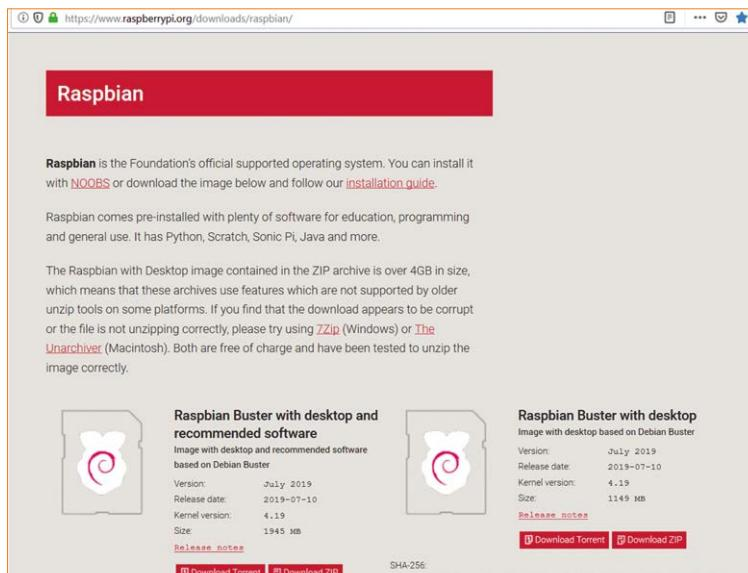

Figure 2.1: Raspbian Buster download page.
- Download the Buster image to a folder on your PC (e.g. C:\RPiBuster) from the following link by clicking the Download ZIP under section **Raspbian Buster with desktop and recommended software** (see Figure 2.1). At the time of writing, the file was called: **2020-02-13-raspbian-buster-full.img**. You may have to use the Windows 7Zip software to unzip the download since some of the features are not supported by older unzip software.